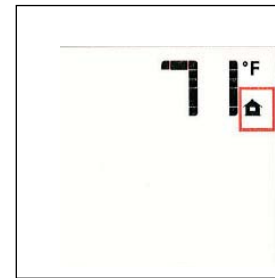

Figure 56. Burner shut-down
- Press the ON/OFF Key. The display will show only the room temperature and icon. At the same time, the Receiver will deactivate the call for heat and the burner will shut down. Fig. 56. A single “beep” from the Receiver will confirm reception of the command.